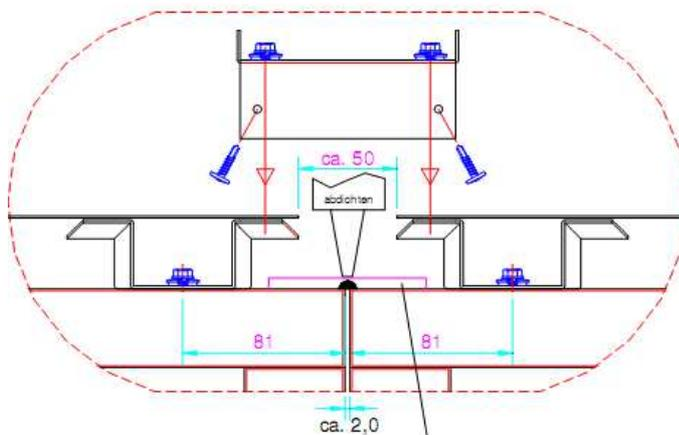

Figure 3.12: Assembly of the separated hood on the separated air handling unit
**Figure 3.9** to **Figure 3.12** show guidelines for the assembly of the hood with the help of cap profiles on the air handling unit. In the process, the assembly on the air handling unit end differs from assembly with separated hood.
If the hood is also separated at an air handling unit joint (see **Figure 3.12**), cap profiles are screwed on with 81 mm spacing.